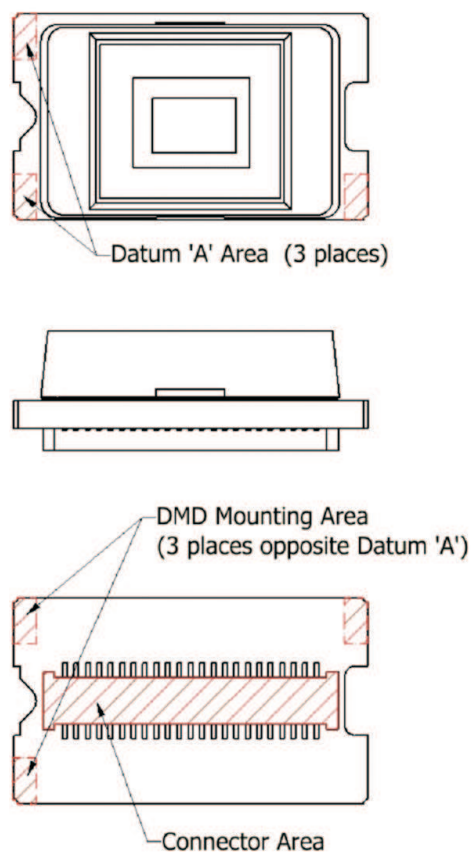

Figure 7. System Interface Loads
(1) All voltages referenced to V_{SS} (ground).
(2) Voltages V_{CC}, V_{REF}, V_{OFFSET}, V_{BIAS}, V_{RST} are required for proper DMD operation.
(3) Exceeding the recommended voltage difference between V_{BIAS} and V_{OFFSET} may result in excessive current draw. See the Absolute Maximum Ratings for further details.
(4) Load should be uniformly distributed across the entire connector area. Refer to the Package Mechanical Characteristics for size and location of the connector interface area.
(5) See Figure 7
(6) Load should be uniformly distributed across the 3 datum-A surfaces. Refer to the Package Mechanical Characteristics for size and location of the datum-A surfaces.